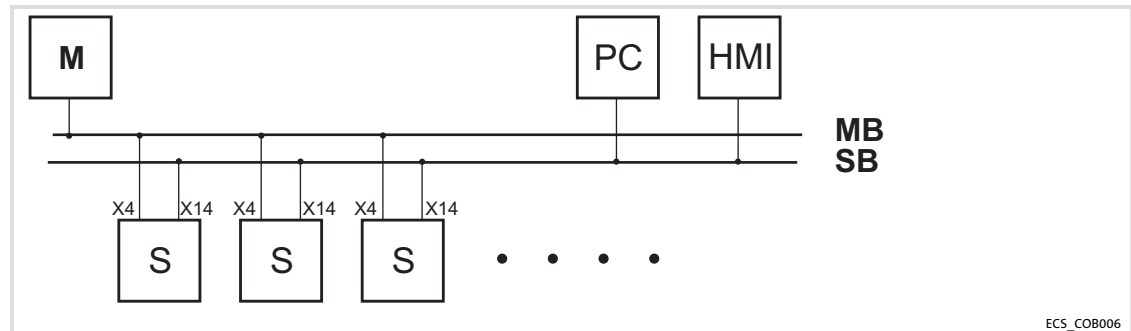

Fig.5-13 MotionBus (CAN) with master control
- In Fig.5-13 a higher-level control assumes the function of the master, e.g. ETC.